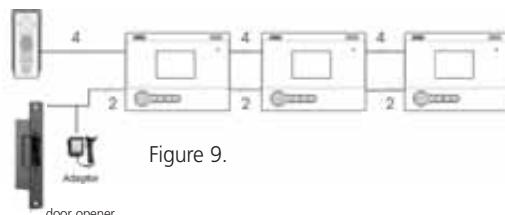

Figure 9.
- To be able to see who is at the door from several places (max. 4). Upon that, you now have an intercom system (figure 9). Available separately: